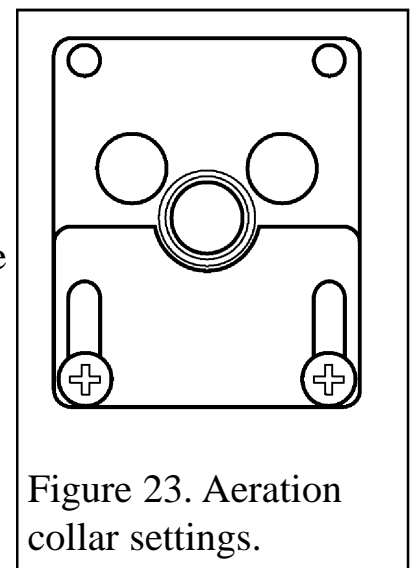

Figure 23. Aeration collar settings.
1. The aeration shutter is factory set. It is important to ensure that the aeration setting is correct (See figure 23).